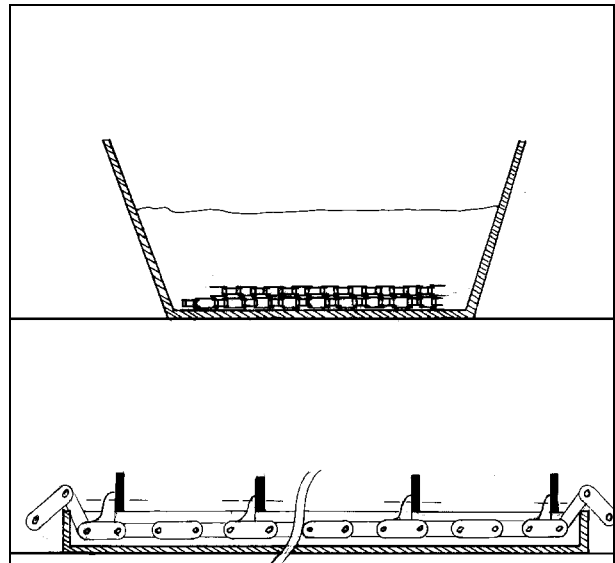
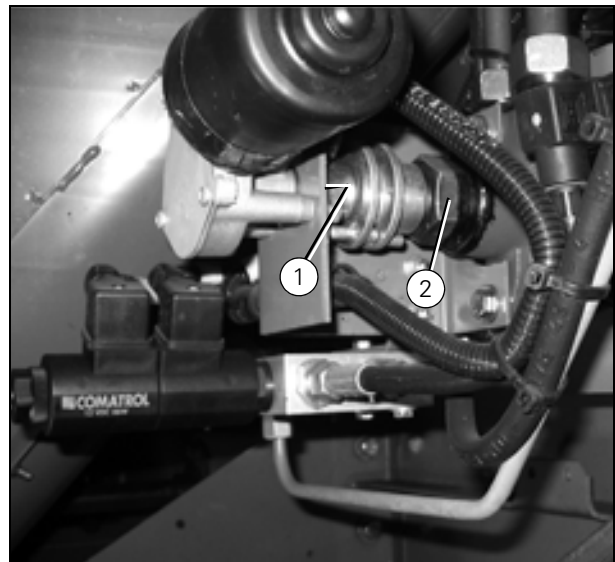

Fig. 12
Fig. 13
(Fig. 12) and (Fig. 13)
Clean and lubricate threaded spindle and shaft on flowdiver for reel speed control at (1) and (2), please see (Fig. 13). Start the diesel engine and move the threaded spindle completely out/in minimum 5 times.